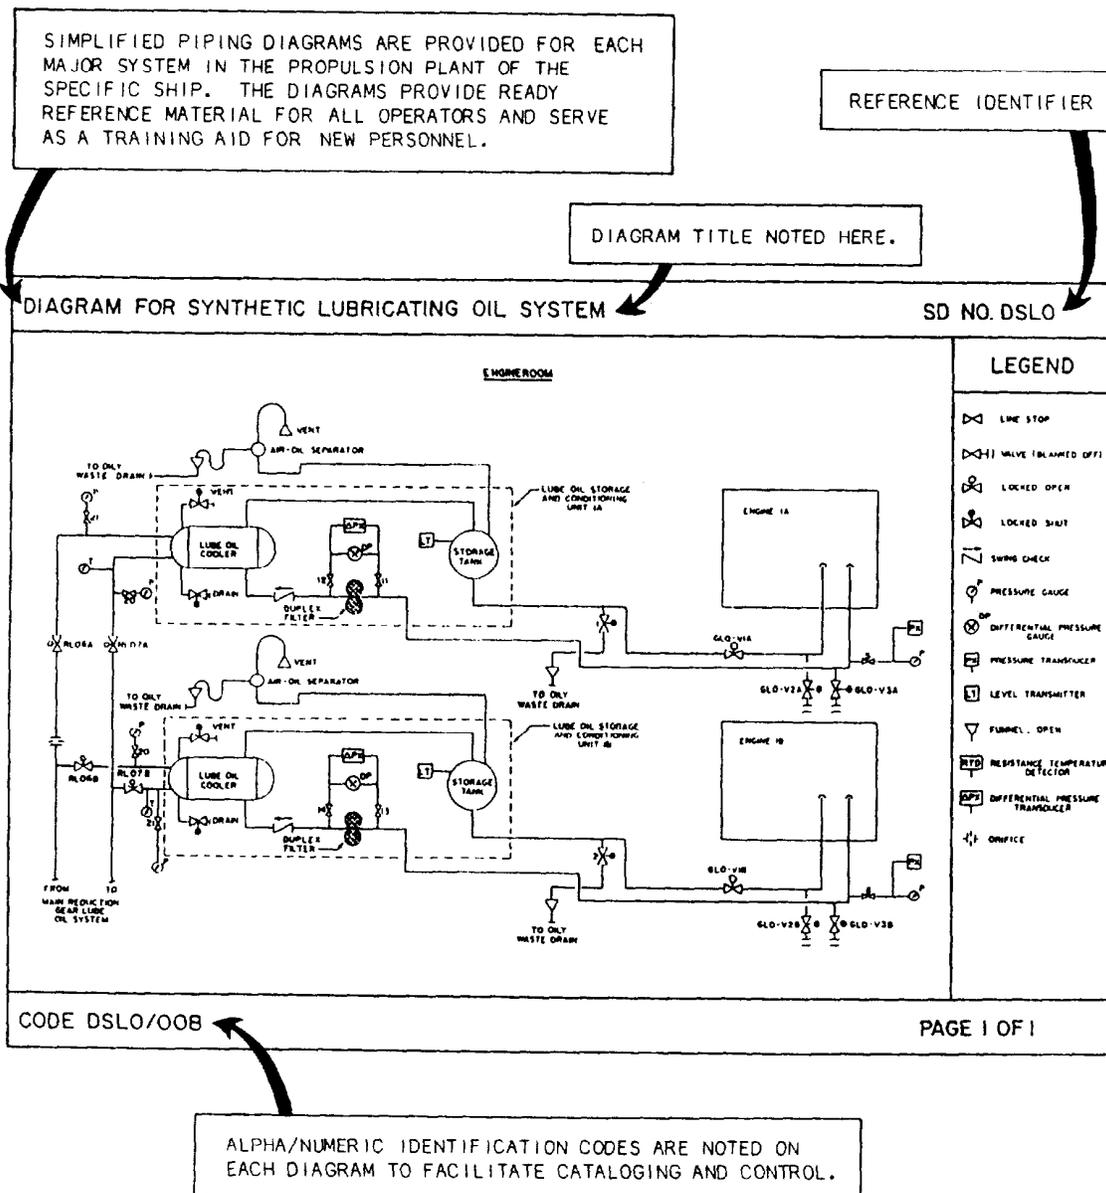

Figure 2-13.—Sample training diagram.
- Training diagrams (fig. 2-13) delineating each major piping system to aid in plant familiarization and training of newly assigned personnel. These diagrams indicate the relative locations of lines, valves, and equipment.